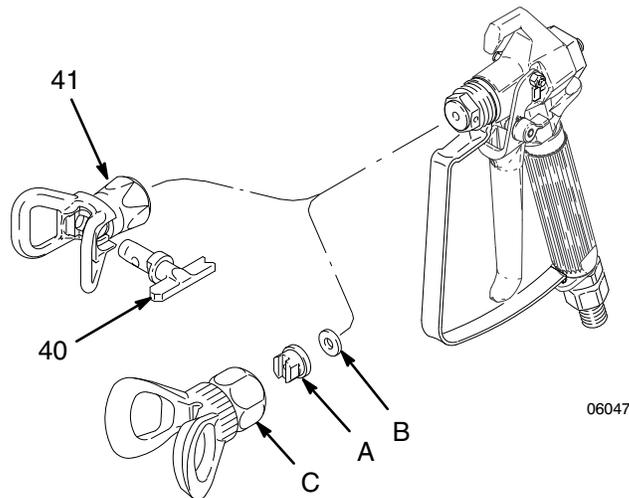

Fig. 2
1. Connect a grounded fluid hose to the gun inlet. See Fig. 2
Install the tip (A) and the gasket (B) in the nut of the tip guard (C). Screw the assembly firmly onto the gun. Tighten the assembly with a wrench. See Fig. 2.
**NOTE:** If the gasket (B) is not installed, the gun will leak.
Install the RAC IV SwitchTip (40) and the tip guard (41). See manual 308–644, supplied. See Fig. 2.
2. Remove the tip guard assembly. See Fig. 2.
3. Squeeze the trigger while unscrewing the diffuser/seat (A) and gasket (B).
4. Remove the locknut (D) and end cap (23).